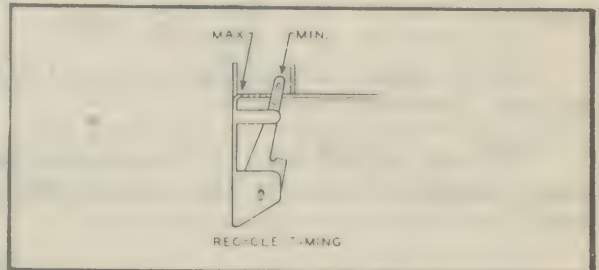

Fig. 6—Factory Setting.
(1) Leave the recycling stop lever at the factory setting - "inward (minimum) position". (See Fig. 6).